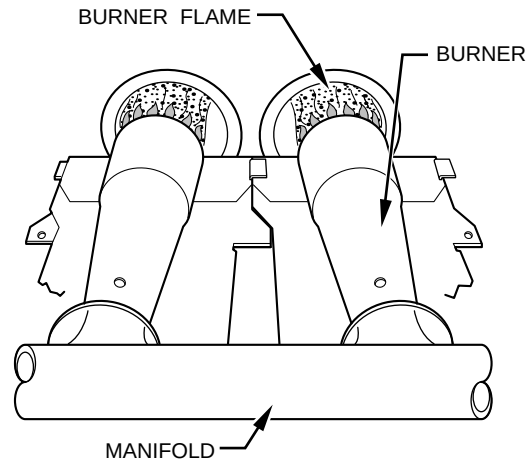

Fig. 17—Burner Flame
- (7.) When correct input is obtained, replace gas control regulator adjustment caps. Main burner flame should be clear blue, almost transparent. (See Fig. 17.)